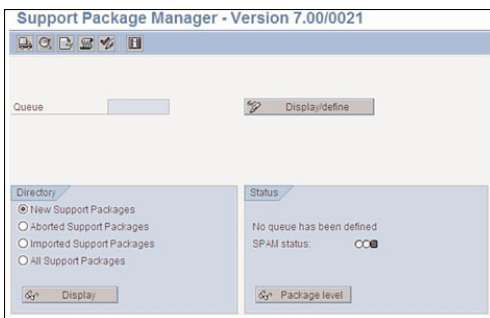

FIGURE 25.10 You can display and install support packages with the Support Package Manager.
10. You might need to update Support Package Manager before applying supporting packages. You can download support packages from <http://service.sap.com/patches>. The Support Package Manager (transaction SPAM) is shown in Figure 25.10.